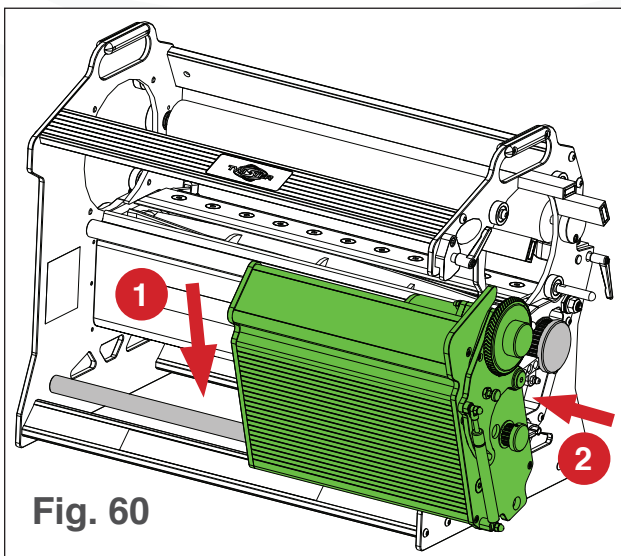

Fig. 60
2. Place the control box on the control box support bar (see Fig. 60).
3. Slide the box left so it slides onto the control box guide pin (see Fig. 60).